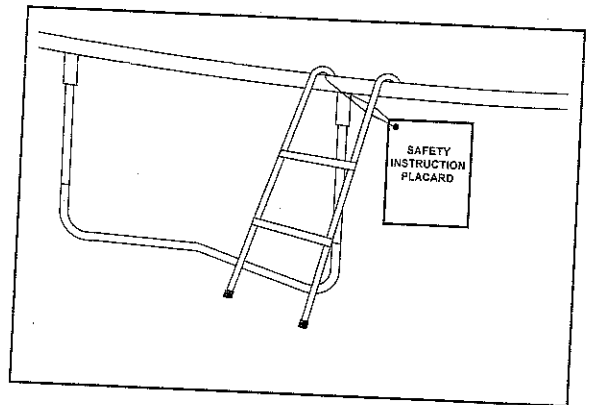

FIGURE 8
Now attach the safety instruction placard using the enclosed tie wrap. Place it at the point where you will normally mount the trampoline. The tie wrap should go around a vertical frame joint and a top rail to keep it from moving laterally (See Figure 8).
**Access ladder (optional part)** - Hook the ladder over a top frame rail/vertical leg extension joint area. This should be at the normal access point. When the trampoline is not in use, remove the ladder and store in a secure location (See Figure 8).